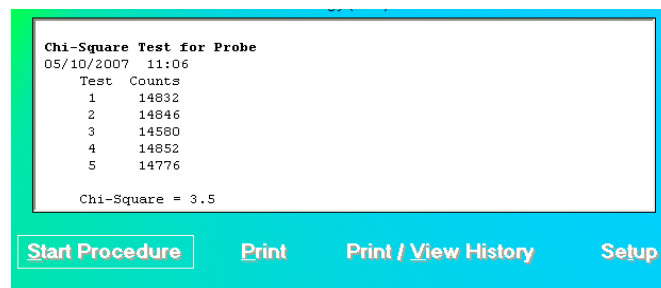

Figure 5-21
10. After the test is completed, the results of the test appear in the results box similar to that shown in Figure 5-21. Note the Chi-Square value.